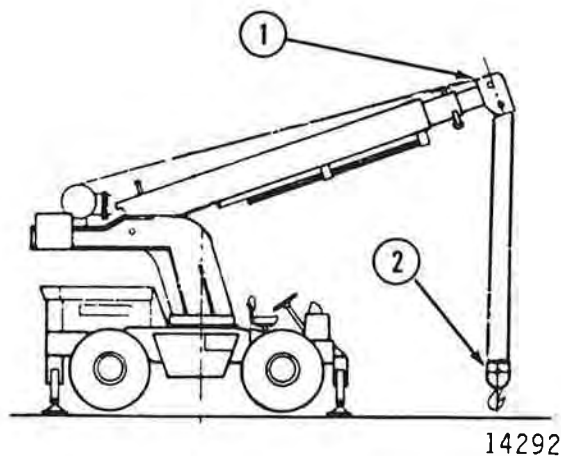

Figure 118
1. Raise boom head block (1, Figure 118) to approximately 3' (914.40 mm) above a fully depressed position.
2. Using hoist lower hook block (2) until it just touches the ground.